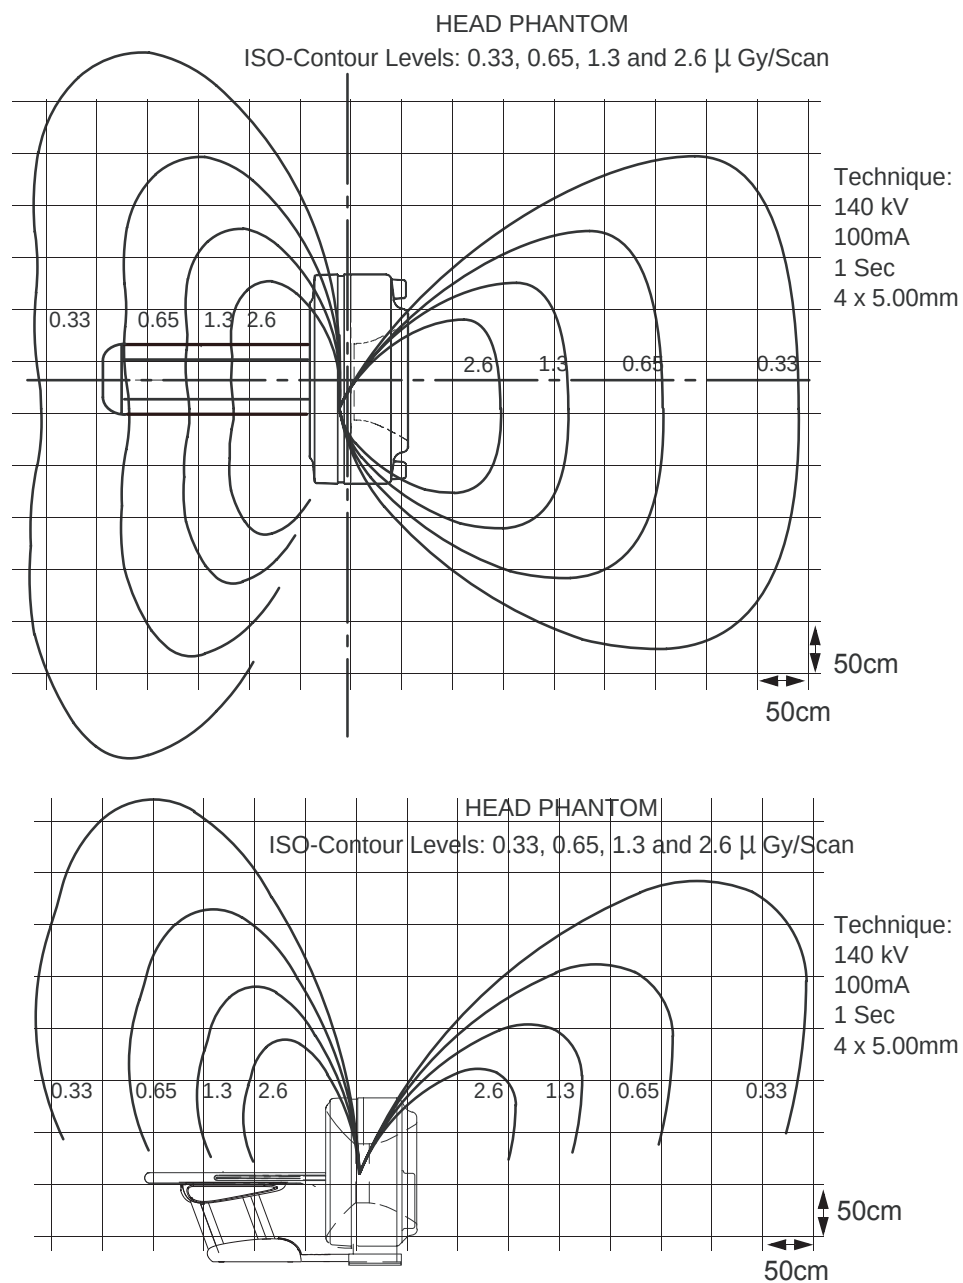

Figure 4-16 Typical Scatter Survey (Head Filter)
- Scatter radiation levels within the scanning room (see Figure 4-16)
Figure 4-16 depicts measurable radiation levels within the scanning room while scanning a 32 cm CTDI phantom (body) and a 20 cm water phantom (head) with the technique shown.